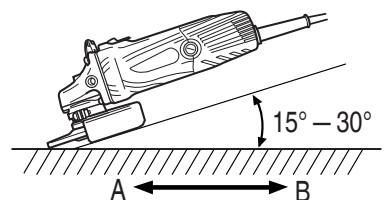

Fig. 1
Do not apply the entire surface of the depressed center wheel to the material to be ground. As shown in **Fig. 1**, the machine should be held at an angle of $15^{\circ} - 30^{\circ}$ so that the external edge of the depressed center wheel contacts the material at an optimum angle.
3. To prevent a new depressed center wheel from digging into the workpiece, initial grinding should be performed by drawing the grinder across the workpiece toward the operator (**Fig. 1 direction B**). Once the leading edge of the depressed center wheel is properly abraded, grinding may be conducted in either direction.